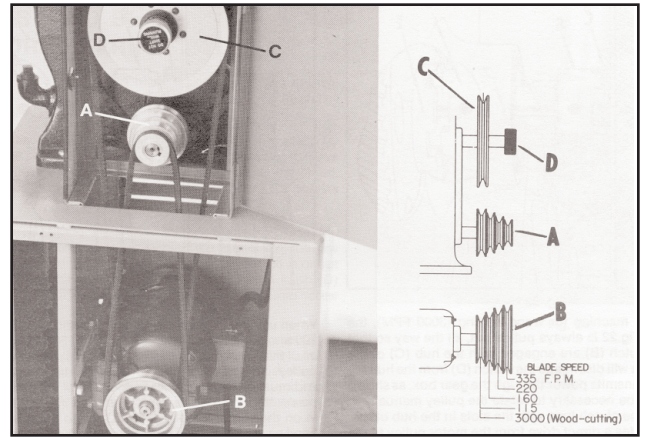

Fig. 33
Blade speeds of 115, 160, 220, 335, and 3000 SFM are available by simply interchanging the positions of the motor pulley and the gear box pulley. Fig. 33 shows the motor pulley (A) positioned on the gear box shaft and the gear box pulley (B) positioned on the motor shaft. With the long belt positioned on the inside groove of the pulley (B) and the pulley (C), and the small belt positioned in one of the remaining three grooves of the pulleys (A) and (B) Fig. 33, speeds of 160, 220, and 335 SFM are obtained when the shifter knob (D) is pushed in.